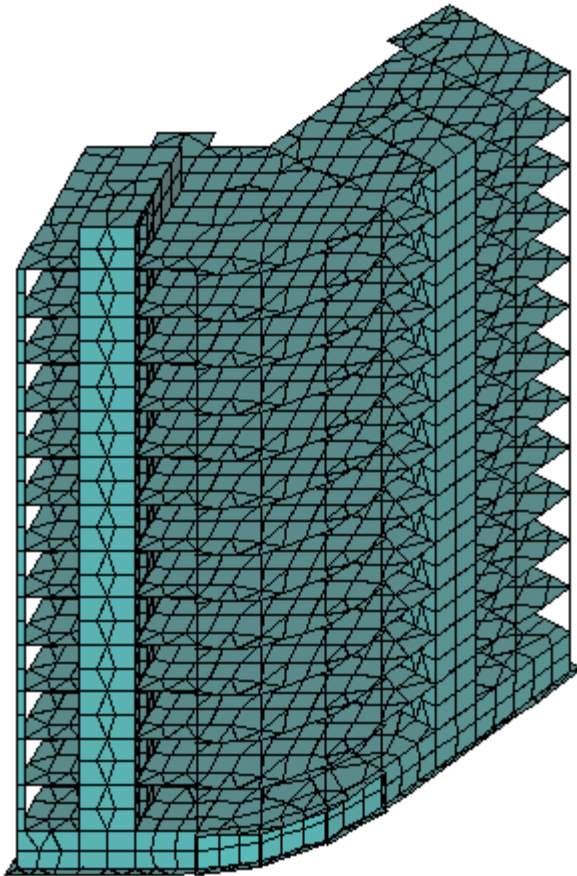

Figure 1.23.3 Design model in **LIRA-SAPR** software
- ⇒ To make the model look as it is presented in Figure 1.23.3, on the **OPTIONS** menu, click **Flags of drawing**.